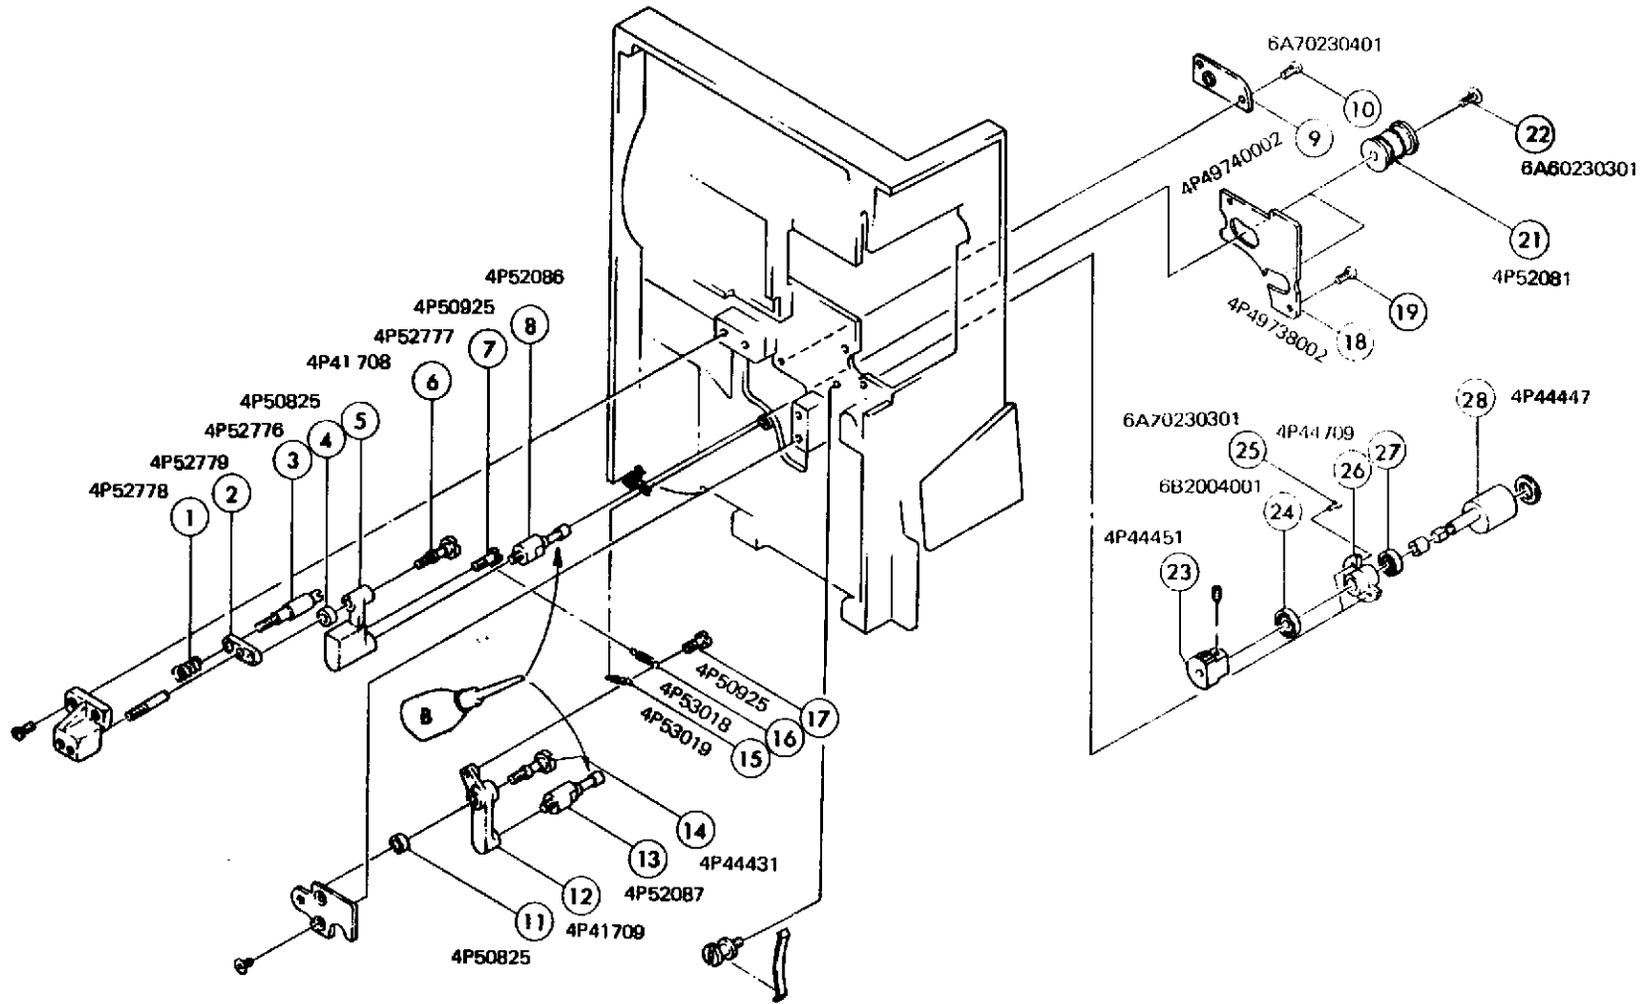

Fig.11
TROUBLESHOOTING : Refer to Fig. 11.
Unscrew (25) x 3 to remove an assembly of (23) to (28). Disassemble further referring to Fig. 11.